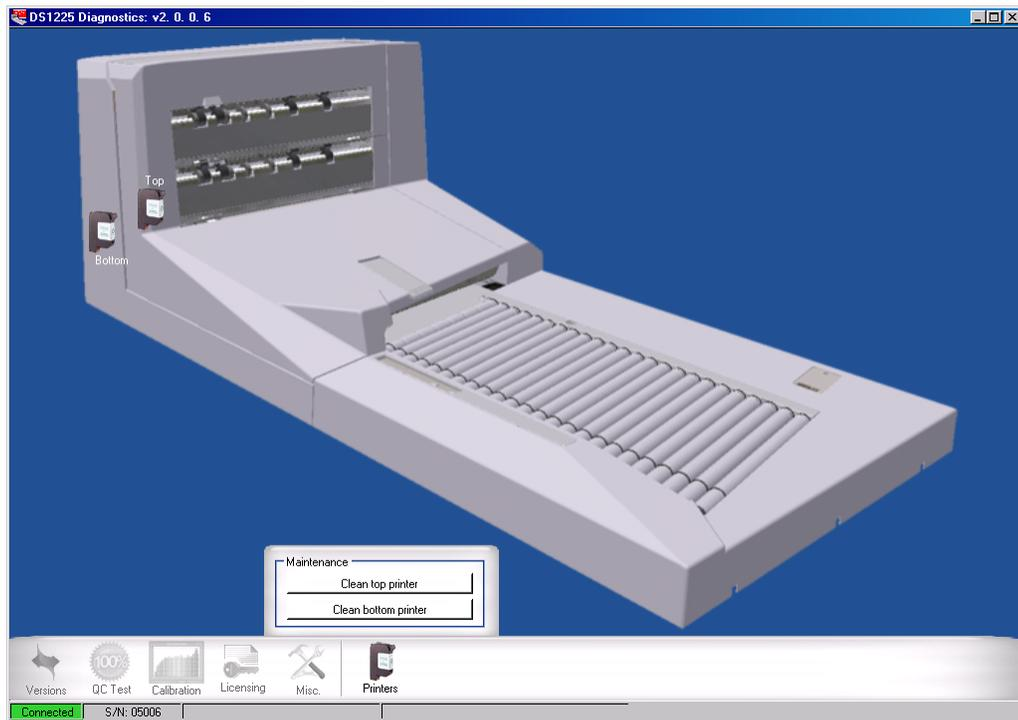

FIGURE 55: Standard Diagnostics - Printers
- 1 Open the clamshell and place a piece of paper in the printer area (as identified in Figure 55).